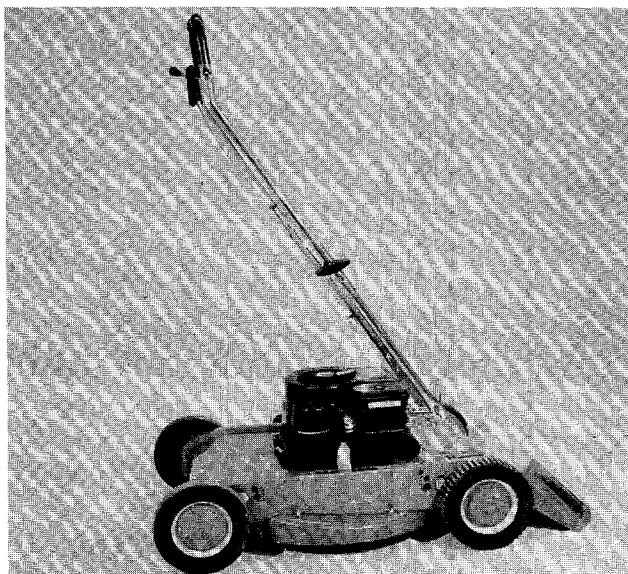

**FIGURE 23.**
11. Remove the cotter pin next to the bearing by the left wheel and slide the axle to the left. The belt can be removed. See figure 23.